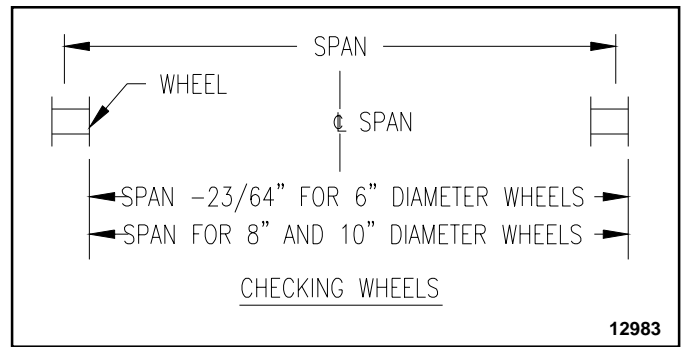

Figure 7.
3. To check the distance between the trucks, push all truck wheels toward the center of the span. The distance from the outside of the wheel on one side of the span to the inside of the wheel on the other side of the span should equal the span length for the 8" and 10" diameter wheels. See Figure 7. The tolerance on this distance is $\pm 1/32"$.